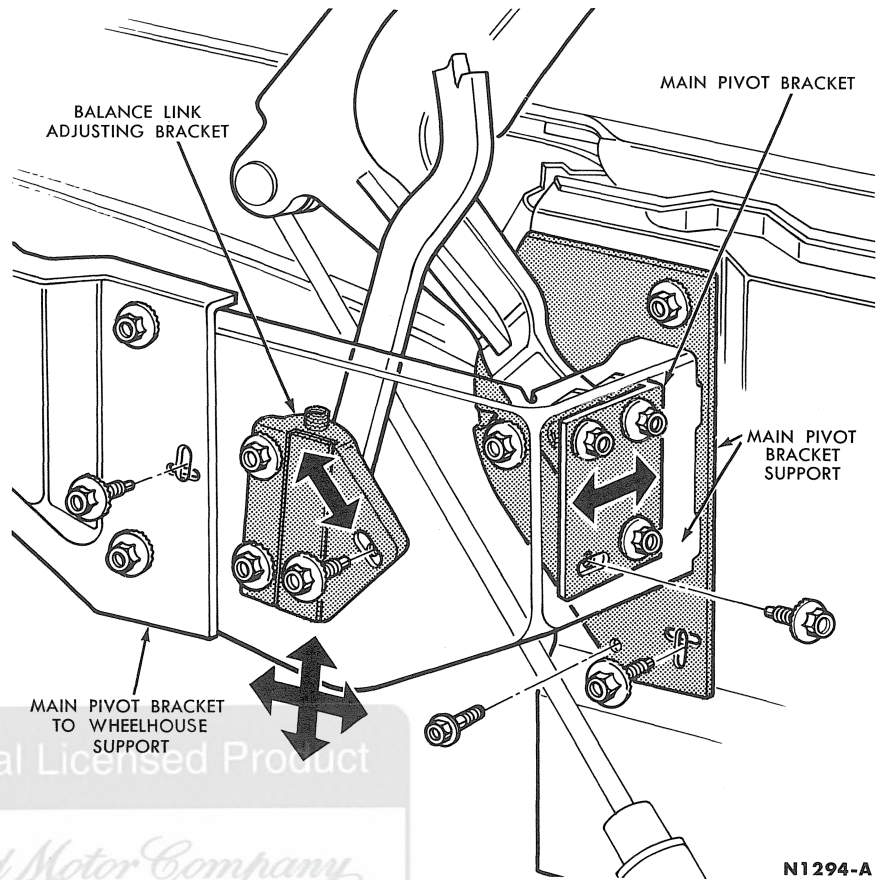
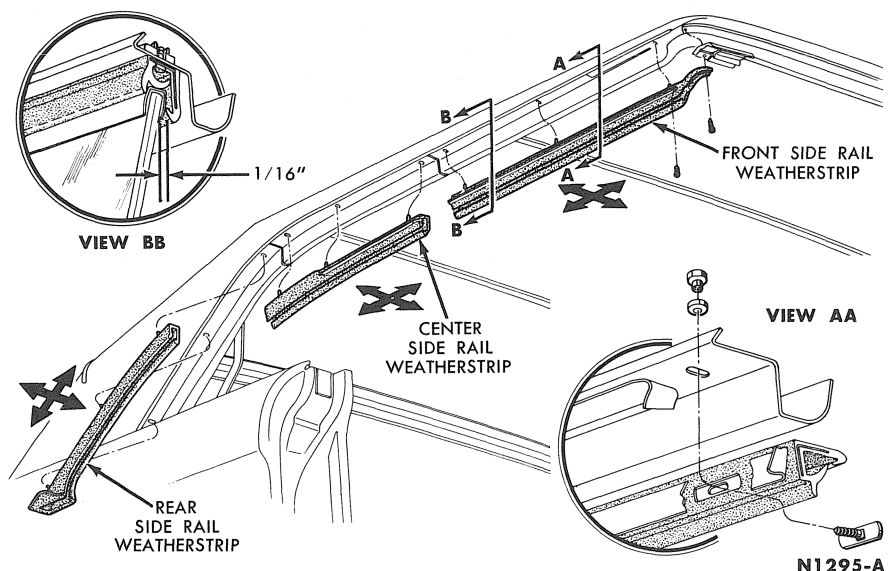

FIG. 4-10—Linkage Adjustments (Typical)
FIG. 4-11—Side Rail Weatherstrip Adjustments
The main pivot bracket support plate is attached to the quarter inner panel and wheelhouse support (Fig. 4-10).
4. Loosen the screws which retain the main pivot bracket support to the inner quarter panel and to the wheelhouse support (Fig. 4-10).
1. Loosen the four screws which retain the main pivot bracket to the main pivot bracket support (Fig. 4-10).
The balance link adjusting bracket is mounted on the inside of the main pivot bracket support (Fig. 4-10). Two adjustments are provided at the bracket. Sliding the bracket in the elongated mounting holes (Fig. 4-11) permits proper stacking of the top in the well. Turning the Allen head adjusting screw in the brackets corrects sag or crown in the side rails (Fig. 4-11).
(Fig. 4-11). The balance link pivot shaft should be in the center position of the support bracket by adjusting
the Allen screw (Fig. 4-11).
The side rail weatherstrips can be adjusted laterally and also fore and aft (Fig. 4-11).